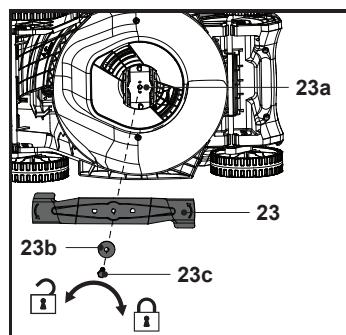

Fig. 20
- Replace the cutting blade (23) with a new one of the same type. Check the status of blade holder (23a) onto the spindle firstly, then attach the cutting blade (23) to the blade holder (23a) by aligning it with the patterns on the blade holder (23a), fix the assembly with the cup washer (23b) and mounting bolt (23c), and tighten by hand.
- Hold the cutting blade (23) firmly with a heavy-duty gloved hand and/or a wood stick, tighten the mounting bolt (23c) clockwise with 25 Nm min, 35 Nm max to ensure safe operation of your machine (Fig. 20).